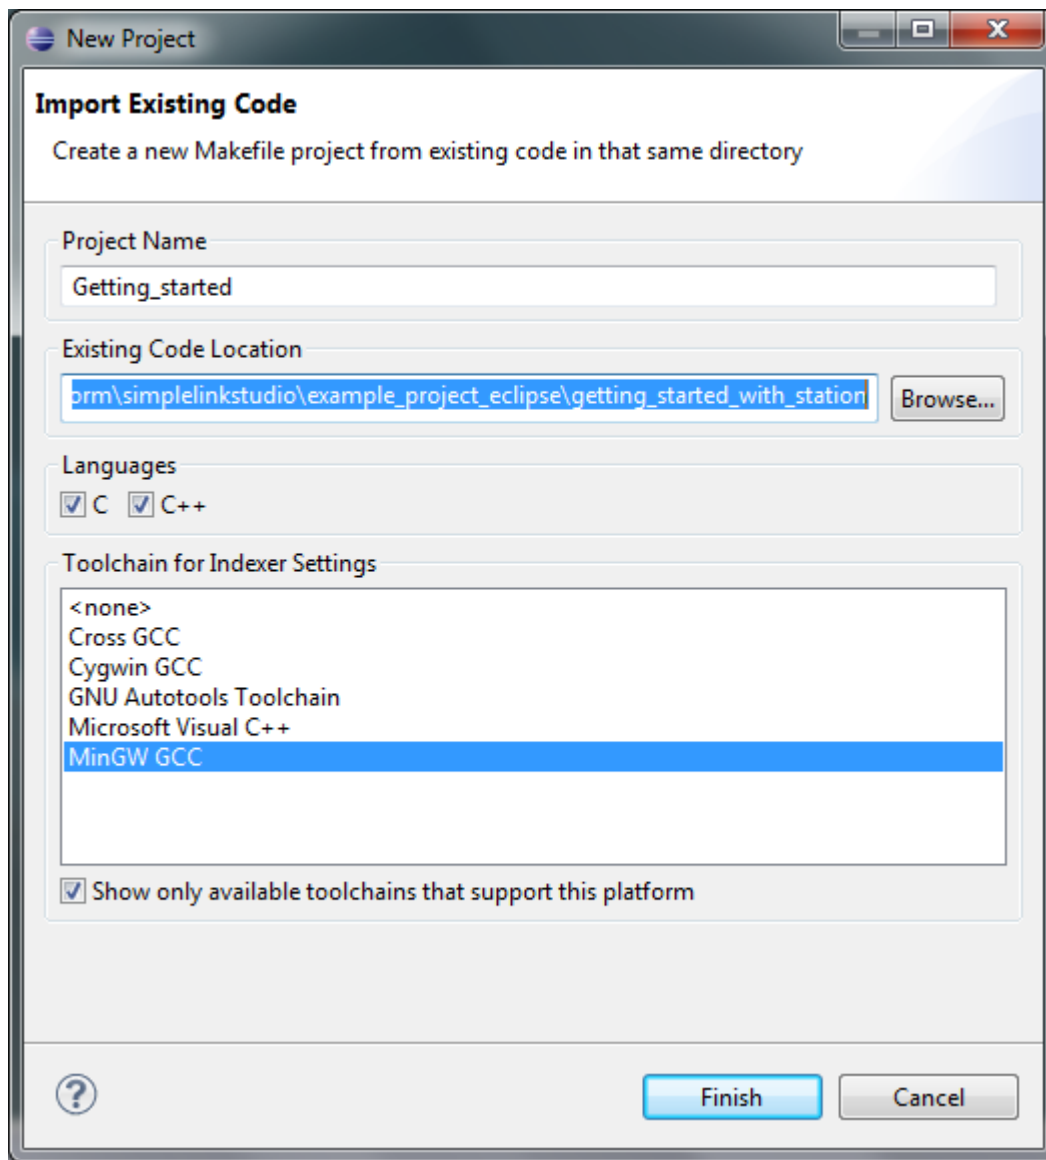

Figure 6. Import Existing Code
10. For Toolchain for indexer settings, choose “MinGW GCC” as shown in Figure 6.